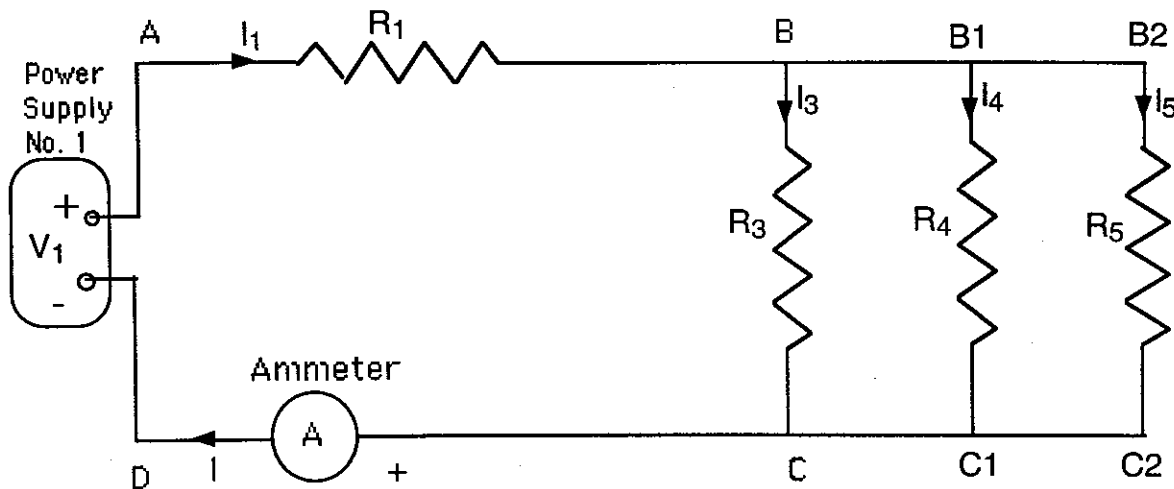
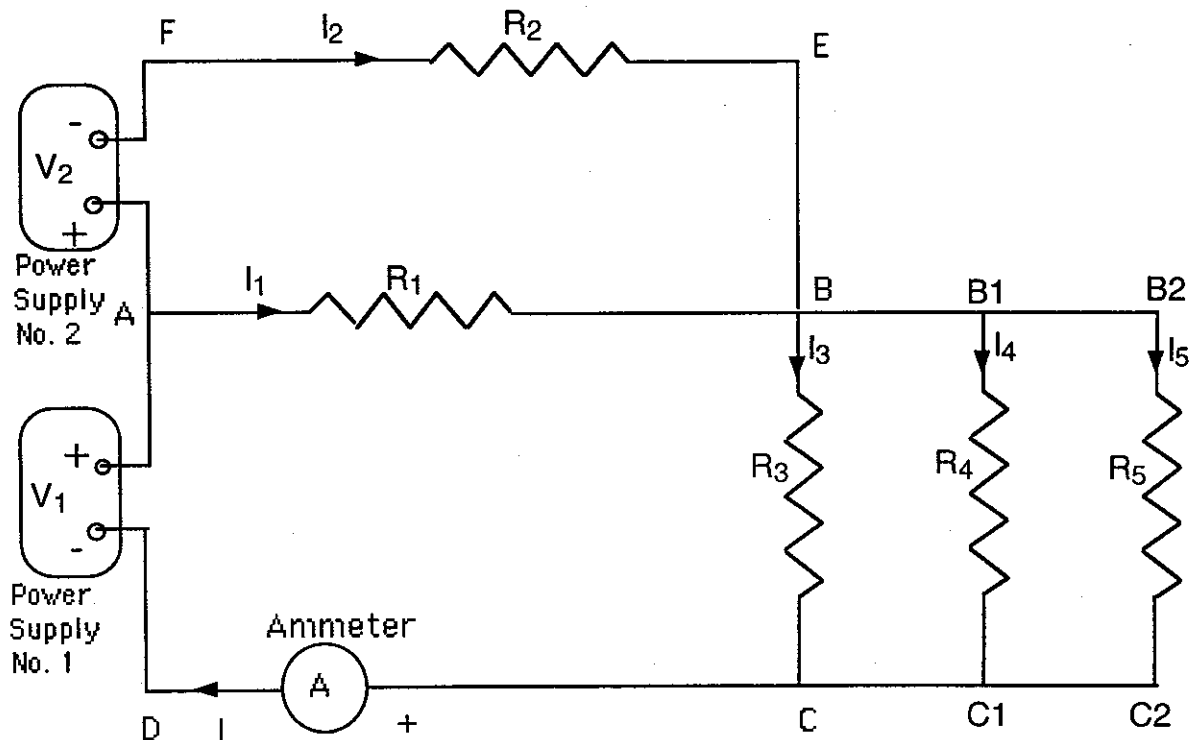

Fig. 2.2
Fig. 2.3
- (b) Make the circuit as shown in Fig. 2.2. Use the larger power supply in the circuit. Switch on the circuit.
- Consider the voltage and currents to be positive if they are in the directions of the arrows in Fig. 2.2.
- (f) Make the circuit as shown in Fig. 2.3 by adding the loop containing the second power supply and R_2 to the circuit of Unit 1.
3. What is the purpose of connecting the ammeter A in Fig. 2.2 and Fig. 2.3?
1. In unit 2, what is the current from the positive terminal of power supply no. 1 to point A (Fig. 2.3)?
4. Can the resistance between points A and D (Fig. 2.2) be measured without disconnecting the power supply? Explain your answer.